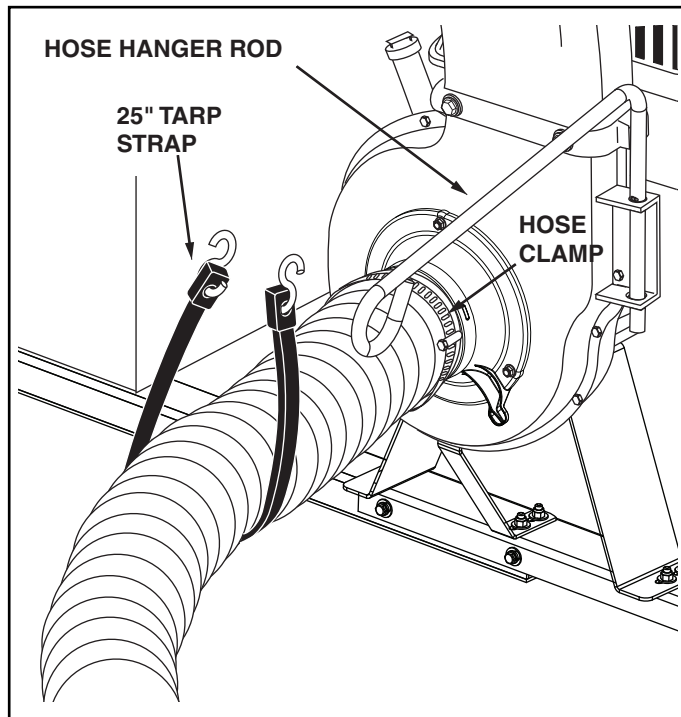

FIGURE 10
14. Place a hose clamp onto one end of hose. Push hose onto hose adapter (nozzle). Tighten hose clamp onto hose and hose adapter. **Do not** collapse hose adapter when tightening clamp. See figure 10.
15. Place the hose hanger rod into the hose hanger bracket on the impeller housing assembly. See figure 10.
16. Loop the 25" tarp strap under the hose. Hook to the hose hanger rod. See figure 10.